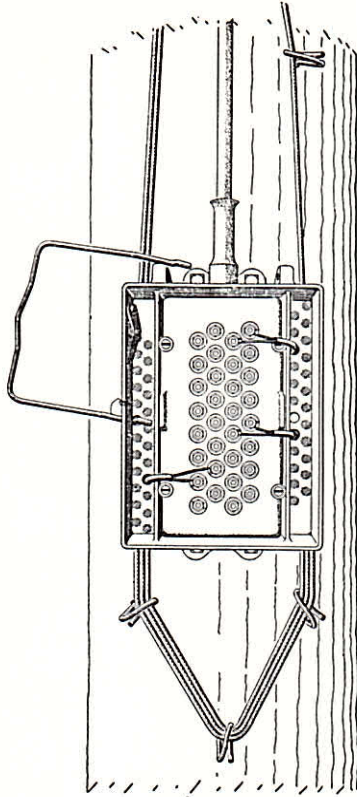

Fig. 4
- (1) Holding the spring catch with offset for the cable stub toward the front, insert its left end into the wire entrance hole, selecting preferably an unoccupied hole in the outside row on the left side of the face plate, which will bring the top of the catch approximately level with the top of the hinge lugs. See Fig. 4.